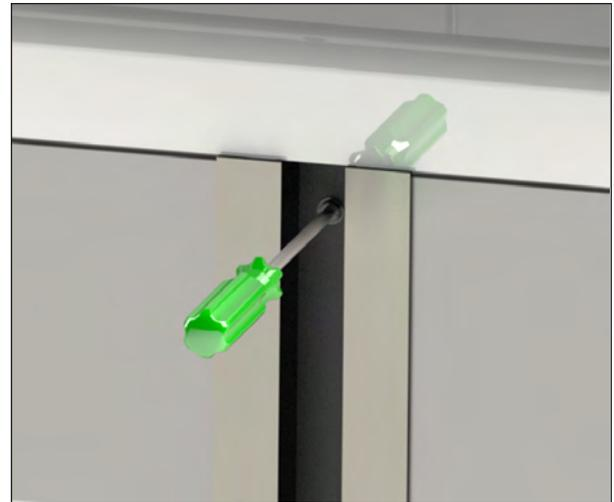

FIGURE 75: UNSCREW THE SPA PANEL
6. Unscrew the panel retaining bracket of the spa with a flathead screwdriver see Figure 75. Do not use a power tool.